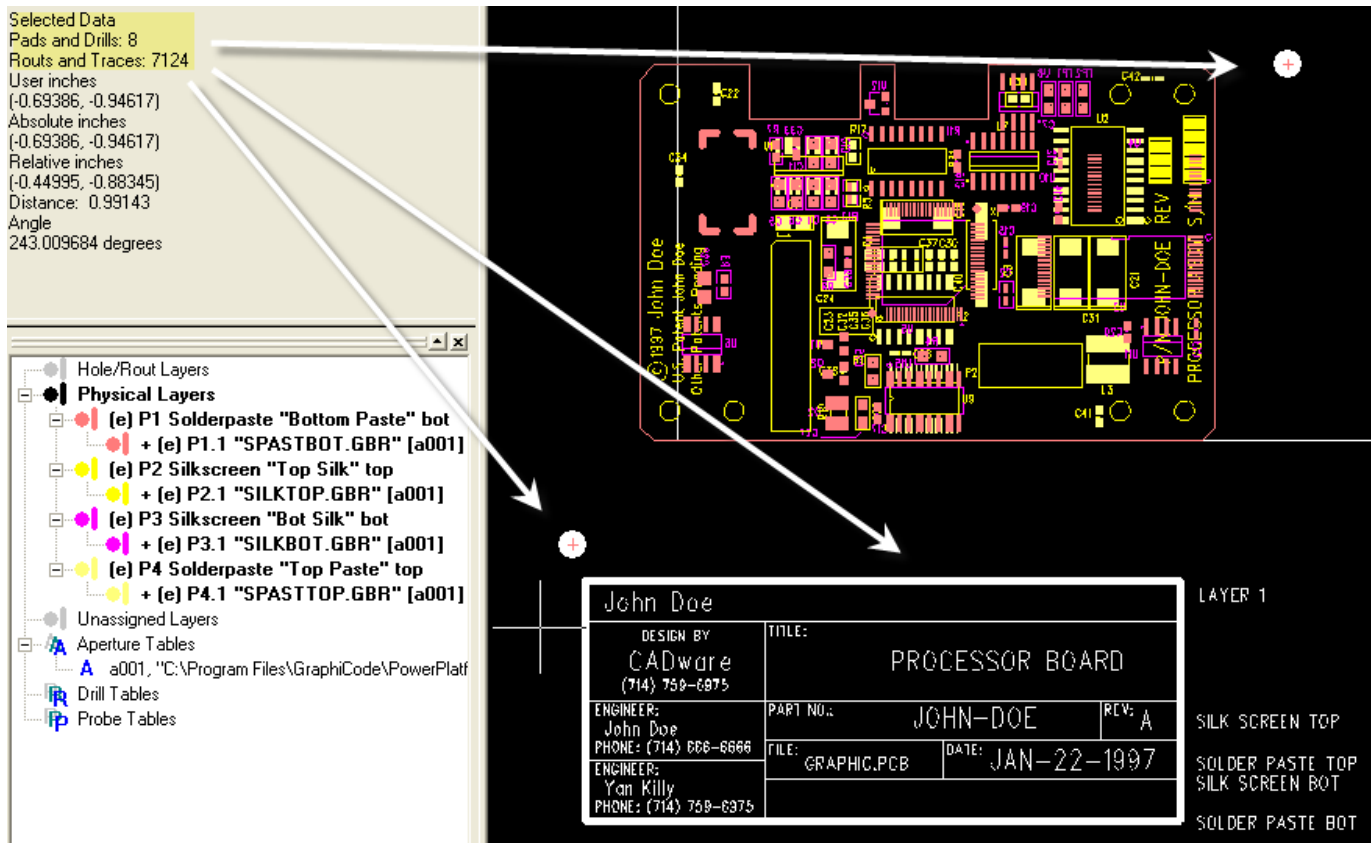

Figure 24
- Verify if sketched pads are present on pad source layers by hiding all layers (View > Layers > Hide All) and Edit enabling the Bottom Paste layer (P1), then double-click on the data layer P1.2 and change the pad and trace colors so that they differ – See Figure 24: